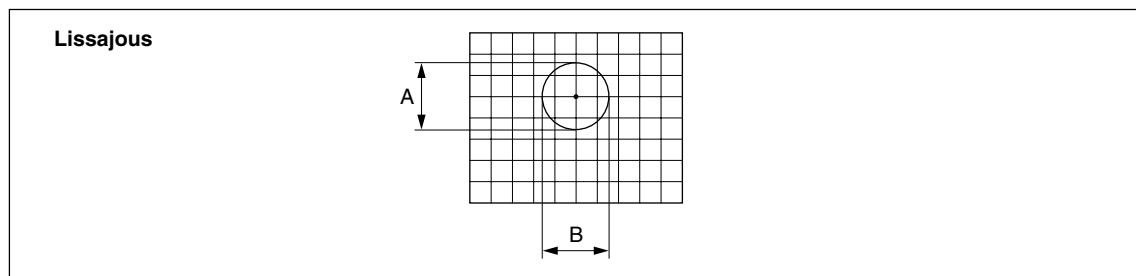

Fig. 3-16
- 5** Move the scale, and make sure that the amplitudes A and B (see Fig. 3-16) of the Lissajous' figure are within the range of the specified values over the entire length.